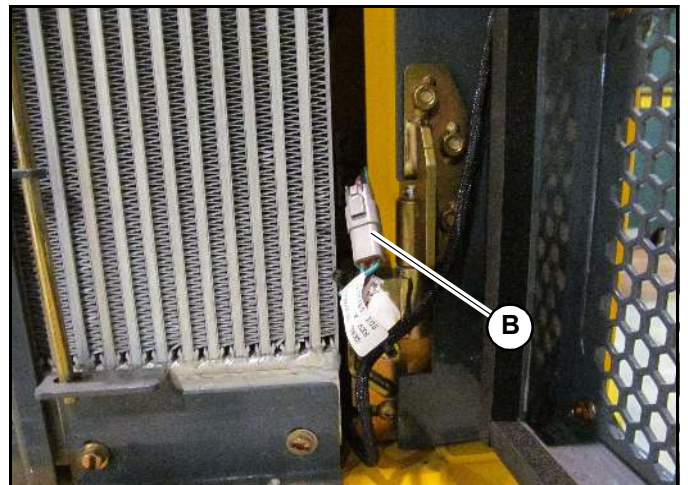

Fig. 51 – Taillight Electrical Connector
3. Disconnect the taillight electrical connector (B, Fig. 51), located between the charge air cooler and the lower rear grille hinge.